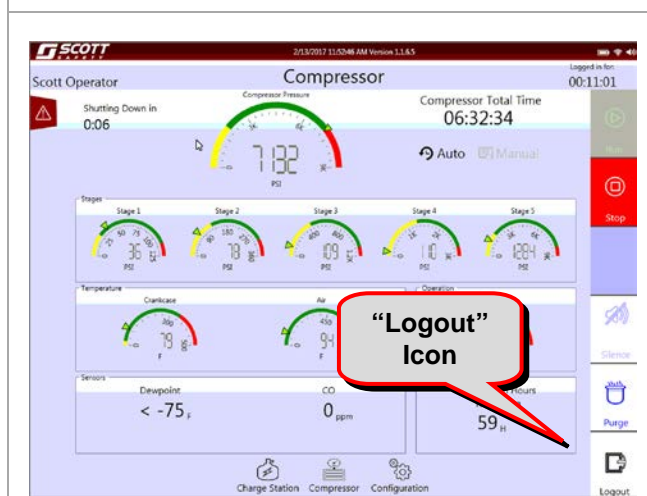

Figure 3.5-6: Logging Out
- 8. It is recommended that at the end of each compressor operation the operator logout by pressing the “Logout” Icon. See Figure 3.5-6.